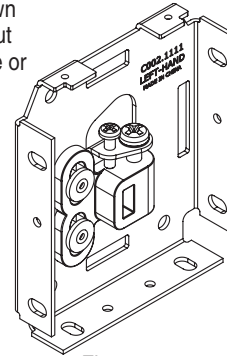

Figure 9
⑮ Lower the shade to its fully retracted position and observe the tracking on the fabric roller. Adjust the tracking by loosening the smaller screw, then, raising or lowering the fabric roller with the larger screw, as needed (see Fig. 9).